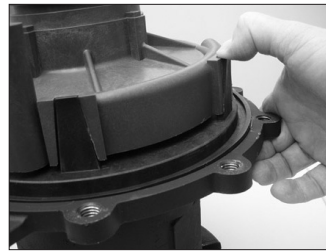

Figure 15
7. Pull the separator plate (item 5) off the inner volute (item 6). Inspect for damage and cracks.
8. To remove the inner volute (item 6), pull back on the (3) snap fit prongs one at a time so that the hook portion falls into the channel on the inner volute. See figures 15 and 16.